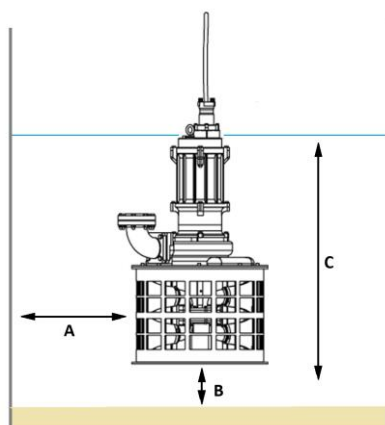

Fig 2
- 10.1.3.** When positioning the Filterpump, observe the minimum required distances (fig. 2) from walls, from the sides of the drain, tank or other location, so as to allow functioning, use and maintenance operations in safe conditions (as per EN 292-2 p.5.5.1.b).
10.2.5. When positioning the Filterpump, observe the minimum required distances (fig. 2) from walls, from the sides of the drain, tank or other location, so as to allow functioning, use and maintenance operations in safe conditions (as per EN 292-2 p.5.5.1.b).
To start up the Filterpump, connect the plug and/or turn on the switch. When the water level reaches the minimum level (fig. 2), disconnect the plug and/or turn off the switch.